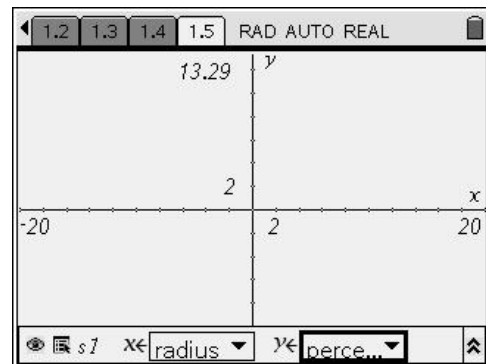

Figure 31
31. Add another graph page using the above procedure. Again select scatter plot as the graph type. This time select “radius” as the x variable and “percentloss” as the y variable. (Figure 31)